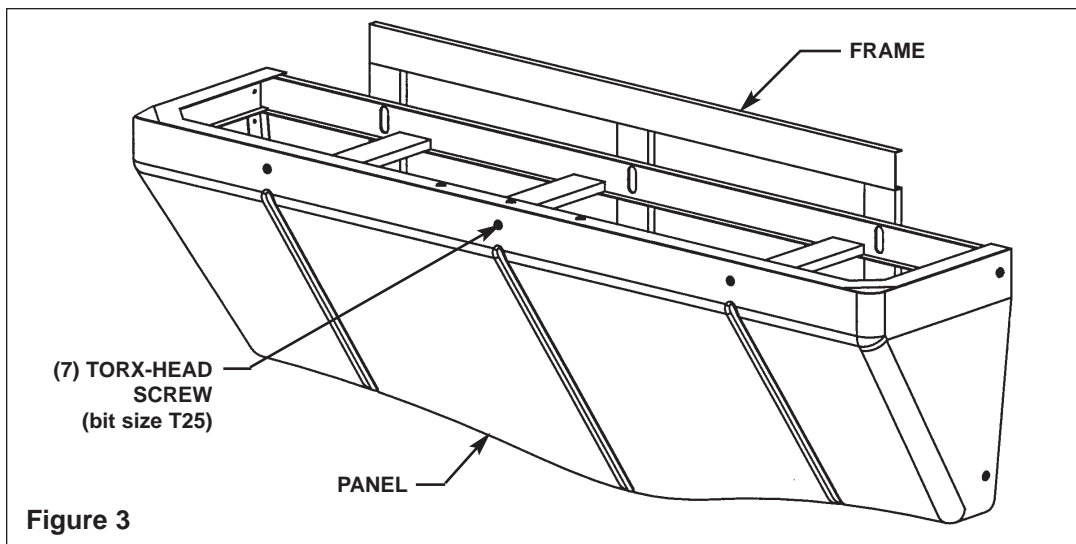

Figure 3
1. Remove the seven Torx-head screws securing the panel to the frame and remove the panel (see Figure 3).
4. After testing is complete, reinstall panel to frame. Fasten panel with seven Torx-head screws provided (see Figure 3 on page 7).